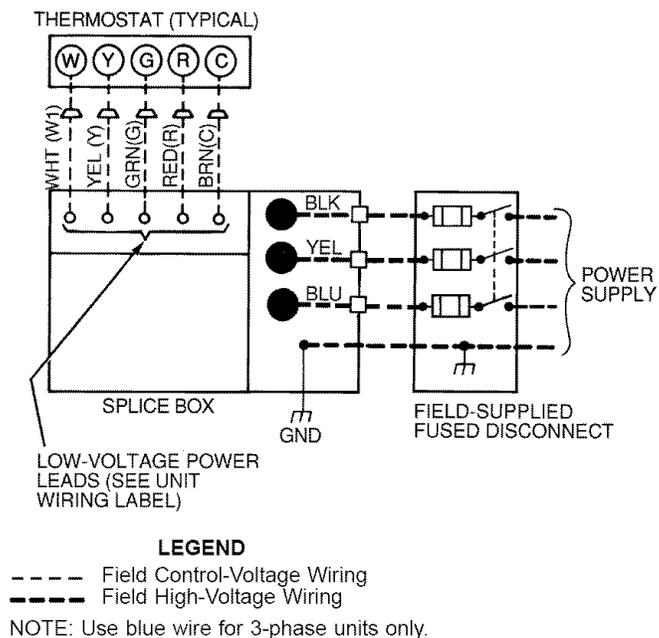

Fig. 17 — High- and Control-Voltage Connections
5. Strip back leads and connect to high voltage leads. On 3-phase units, blue wire is provided stripped back and ready to connect to high voltage lead. See unit wiring label and Fig. 17.
Locate five 18-gage wires leaving control box. These low-voltage connection leads can be identified by the colors red, green, yellow, brown, and white. (See Fig. 17.) Ensure the leads are long enough to be routed into the low-voltage splice box (located below right side of control box). Stripped yellow wire is located in connection box. Route leads through hole in bottom of control box and make low-voltage connections as shown in Fig. 17. Secure all cut wires, so that they do not interfere with operation of unit.
Remove knockout in compressor fixed panel located below high-voltage knockout. Remove the rubber grommet from the installer's packet (included with unit) and install grommet in the knockout opening. Route thermostat wires through grommet providing drip loop at panel. Connect low-voltage leads as shown in Fig. 17.